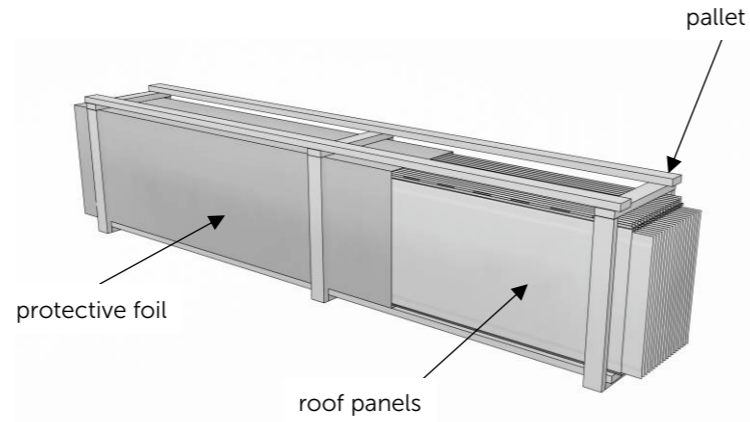

Fig. 1
- The panels should be transported in their original packaging (Fig. 1).